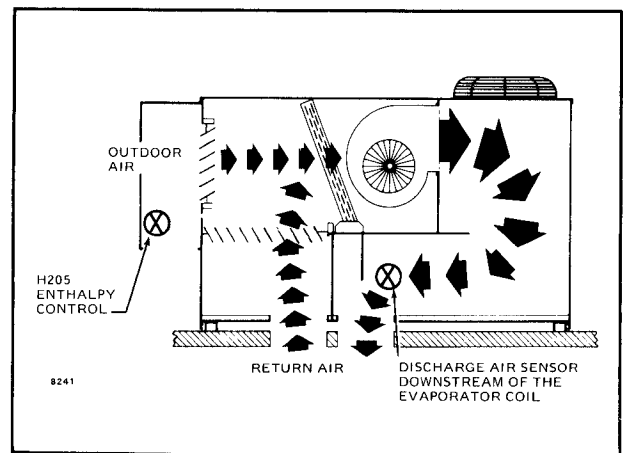

FIG. 20—LOCATION OF SENSORS USING W973 SYSTEM.
5. The economizer must contain an H205 Enthalpy Changeover Control to sense temperature and humidity of outdoor air. The H205 shall be set between the "A" and "B" set points. See Fig. 20.